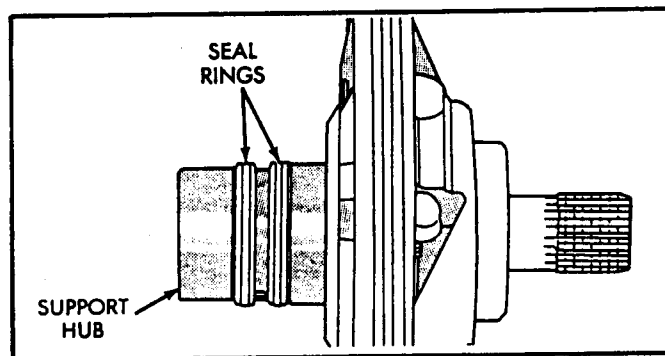

Figure 56
24. Install 2 new sealing rings onto pump reaction shaft support. Squeeze each ring until ring ends are securely hooked together (See Figure 56).